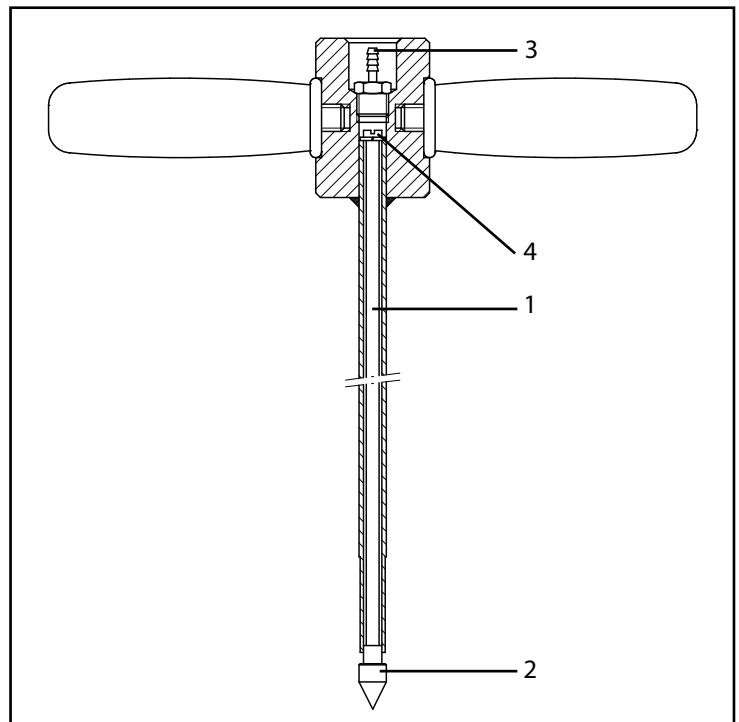

Figure 2: Soil gas probe
Check whether the inner pin (Fig. 2 number 1) of the soil gas probe slides up and down properly. Clean the point (2) with a hard brush.